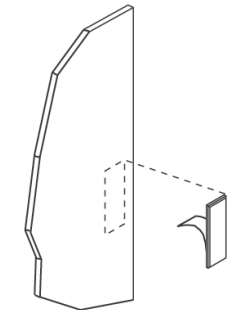

FIGURE 9
Attach mirror pull by peeling off the tape protection, as shown, and choose the desired height [approximately 40" (1016) high]. The pull should be located approximately 1/2" (13) in from the door edge (Figure 9).